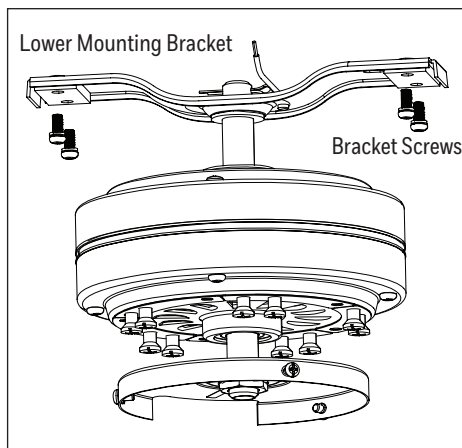

Figure 2.2
2. Remove the four preassembled bracket screws from the lower mounting bracket and save for blade arm assembly (Figure 2.2).